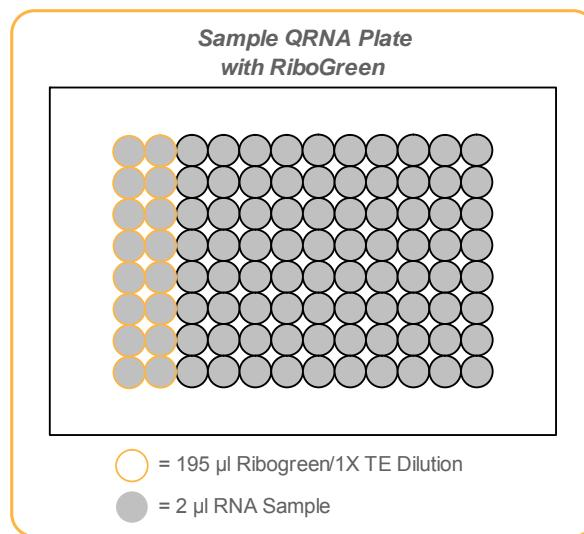

Figure 67 Sample QRNA Plate with RiboGreen
1. Using an 8-channel pipette, transfer 195 μ l RiboGreen/1X TE dilution into each well of columns 1 and 2 of the Sample QRNA Fluotrac plate (Figure 67).